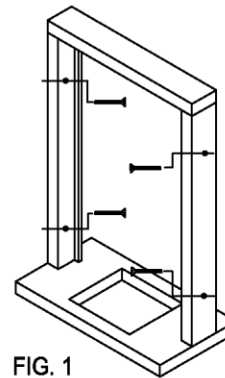

FIG. 1
- 5) INSTALL THE ANCHOR SCREWS THROUGH THE PREDRILLED HOLES. (SEE FIG. 1)